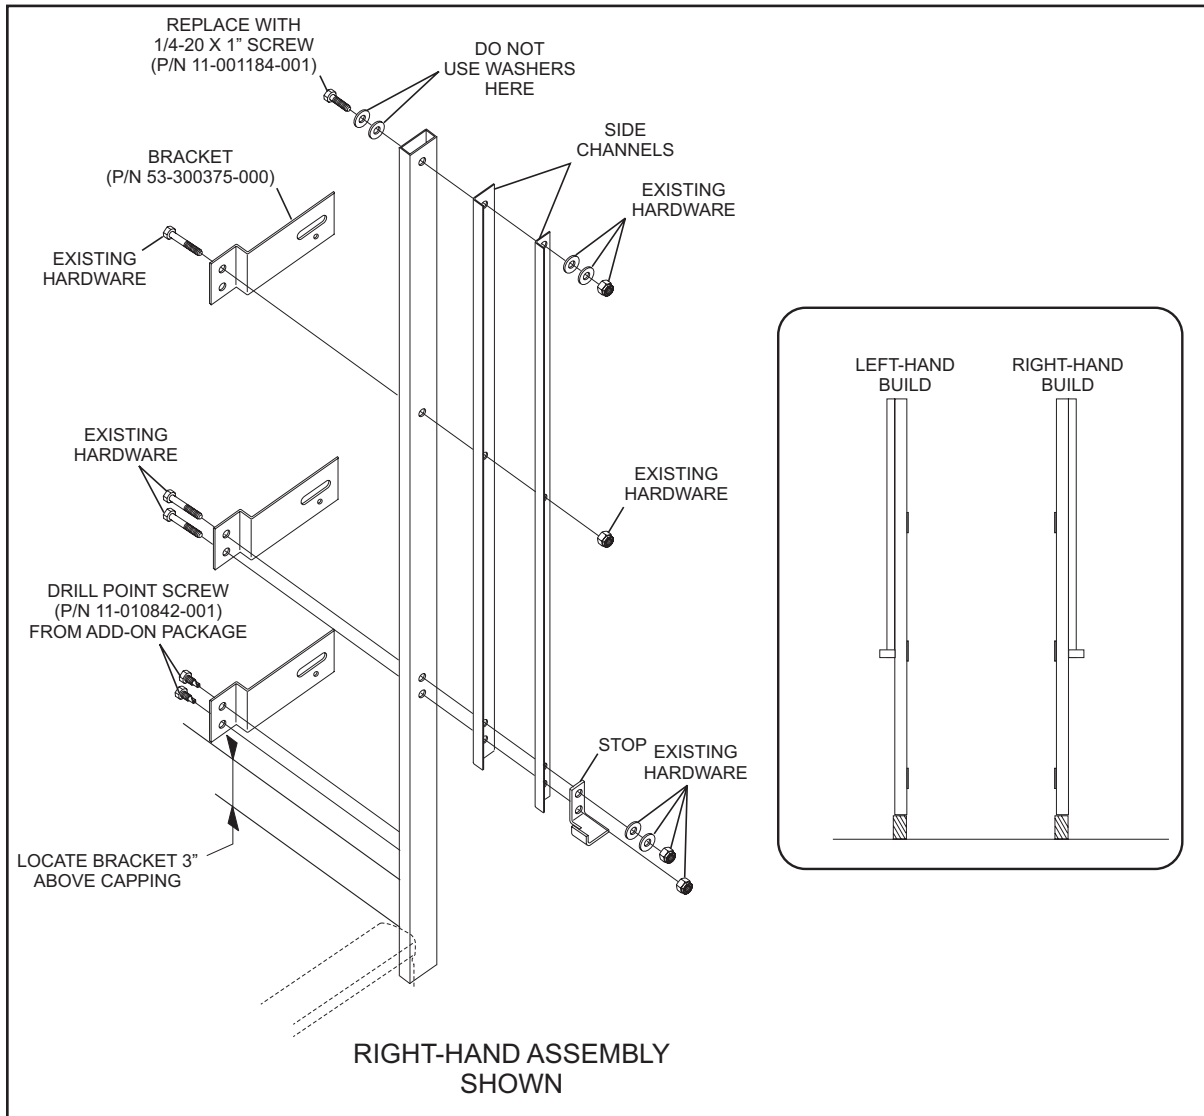

Figure 109
1. Remove appropriate left or right side channels and stop from side of masking unit that the kit is to be added to. Refer to *Figure 109*.
2. Using existing hardware and hardware contained in package 53-861091-000 secure the three brackets from kit. Refer to *Figure 109*.